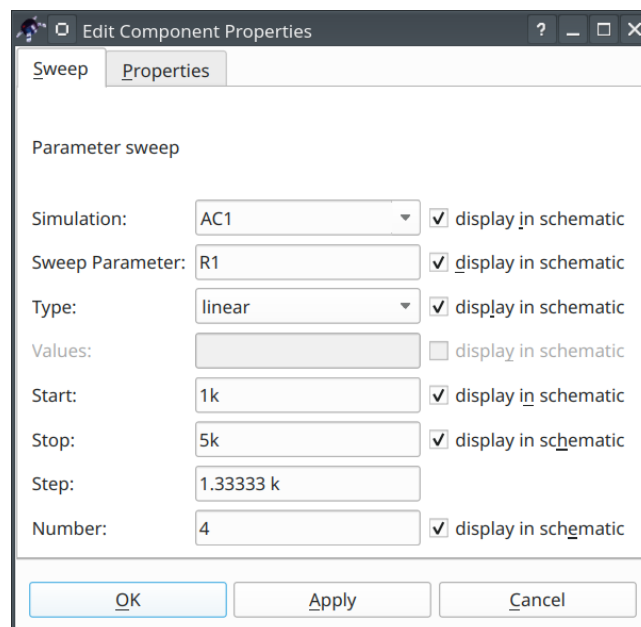

Figure 14: Setting parameter sweep properties
- Step 2:** Set the properties of the parameter sweep simulation. After the double click the dialog window will be opened (Figure 14). The *Simulation* drop-down list is the the name of simulation component to which the parameter sweep is attached. For our example we need to select the AC1 simulation from the drop-down list, because we attaching the parameter sweep to the AC simulation. The *Sweep parameter* input field is the **device** name. Variables or other objects name are not acceptable here! Enter the R1 device name here. The *Start*, *Stop*, *Step*, and *Number* input fields serve for the definition of the sweep range. We will sweep the R1 value from 1 kOhm to 5 kOhm and take 4 sweep points.